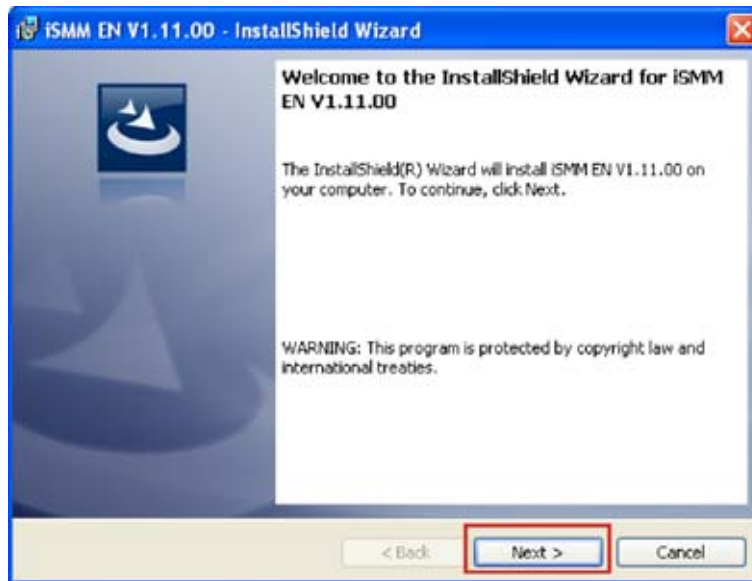

Figure 7-31: iSMM InstallShield Welcome Screen
Step 70: The iSMM InstallShield Welcome Screen appears. (Figure 7-31)